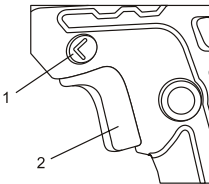

Fig. 1
The forward/reverse switch (1) is conveniently mounted above the trigger switch (2) (Fig. 1). To make the drill rotate clockwise for drilling, push the forward/reverse switch to the right. To make the drill rotate counter-clockwise, push the forward/reverse switch to the left.